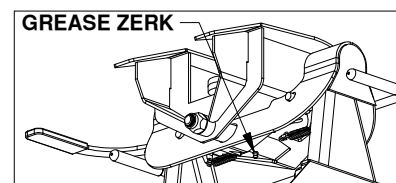

Figure J1: View under saddle.
- Grease the saddle through the grease zerk approximately every six months with multi-purpose grease. this allows the coupler to pivot freely, see Figure J1